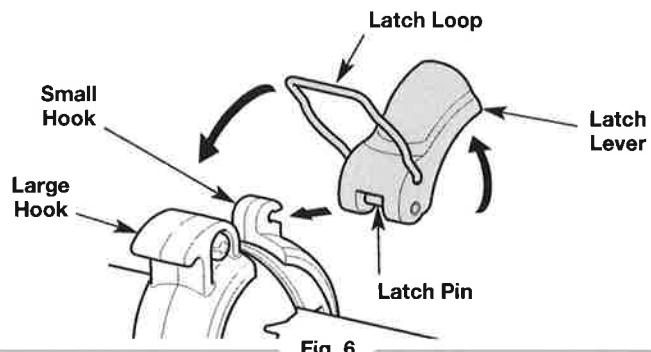

Fig. 6
- Push the latch pin completely into the small hook on the handle (Fig. 6). Lift the latch lever up and push it toward the large hook (Fig. 6). Push the latch loop over the large hook (Fig. 6).